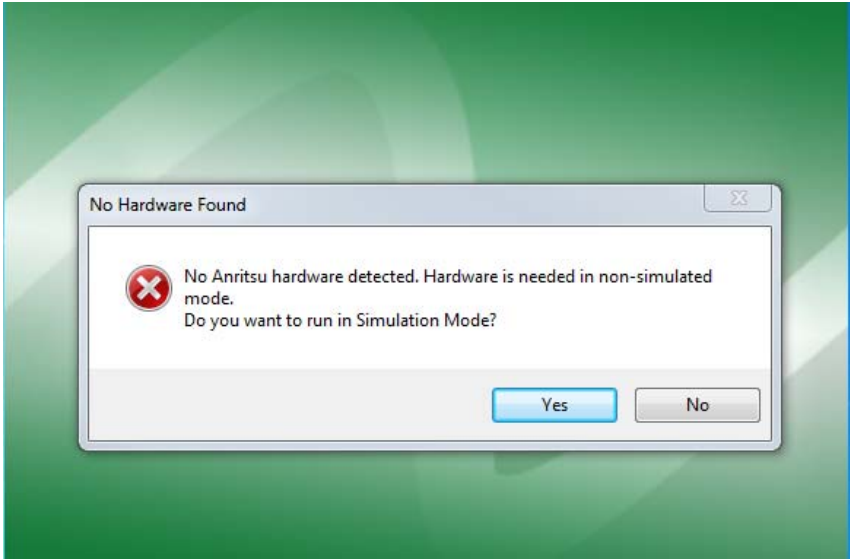

Figure 3-8. ShockLine GUI Initialization Screen
2. From the No Hardware Found dialog box, Figure 3-8, select yes to run in Simulation Mode.